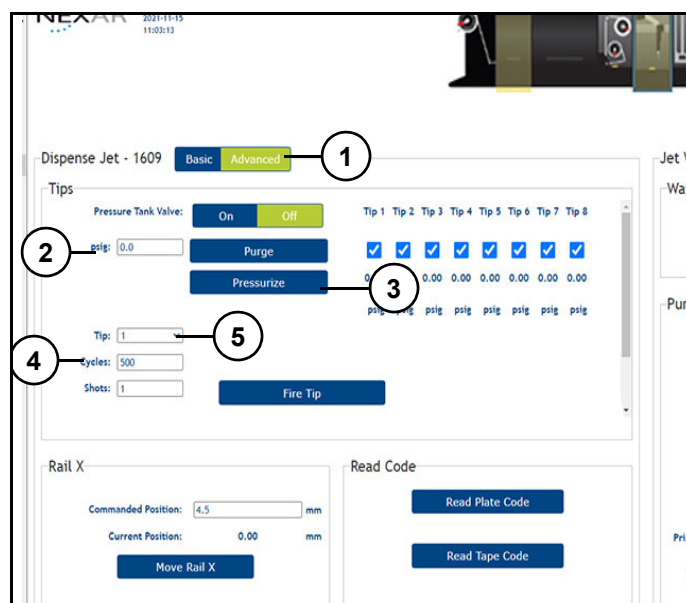

Figure 40
Refer to (Figure 40).
6. Click "Basic" (1).
7. Click "Dispense" (2).
8. Check location of air gap in tube of tip selected. If air gap is not at correct ending point (as it was in Step 8), change value in "Cycles" (4) (*Figure 40*).